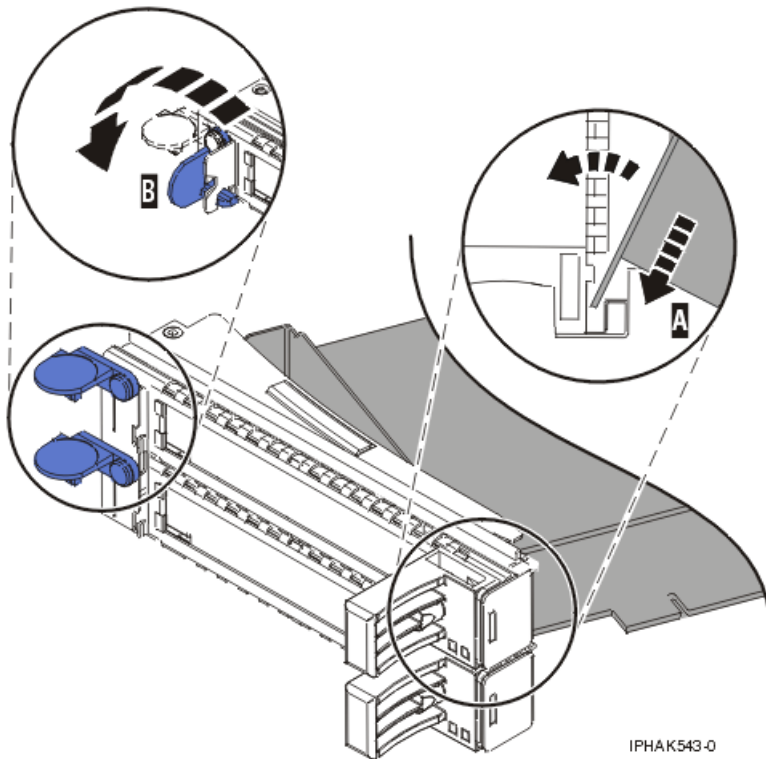

Figure 48. Adapter replaced in the PCI adapter cassette
- a. With the tailstock clamp in the open position, insert the adapter firmly into the tailstock retaining channel A. See Figure 48 on page 68.
- d. Position the adapter retainers to support the adapter, and then rotate the retainer clip **B** into the closed position. See Figure 48.